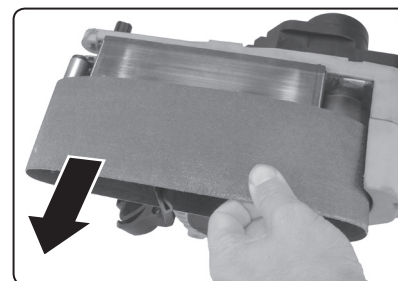

Fig. 5
2. From the side, take the belt off the rollers (fig. 5).